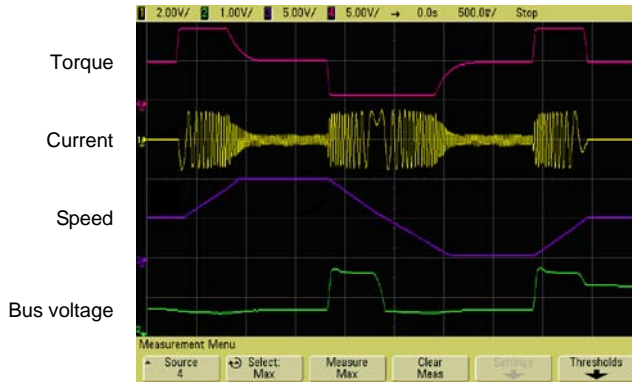

Fig. 1 Quick acceleration/deceleration four-quadrant running in the form of 0Hz
- ◆ Fig. 1 indicates the four-quadrant operation of the motor under speed sensorless vector control. The torque, current, speed and DC bus voltage have quick response, and the motor has stable operation.